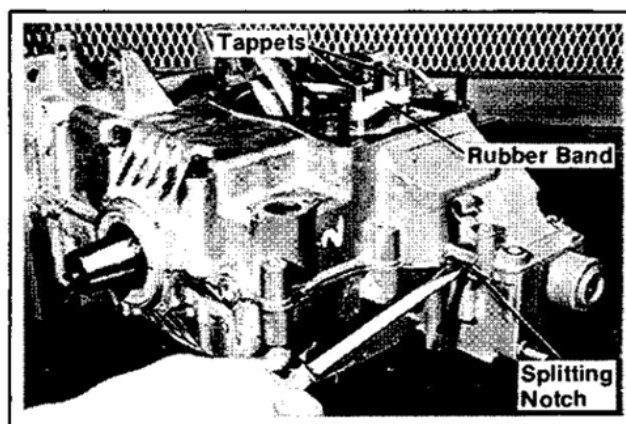

Figure 9-38. Splitting The Crankcase.
4. Lay the crankcase down so the #2 side is up. Locate the splitting notches in the seam of the crankcase. Pry the halves apart using the blade of a large screwdriver. Refer to Figure 9-38.